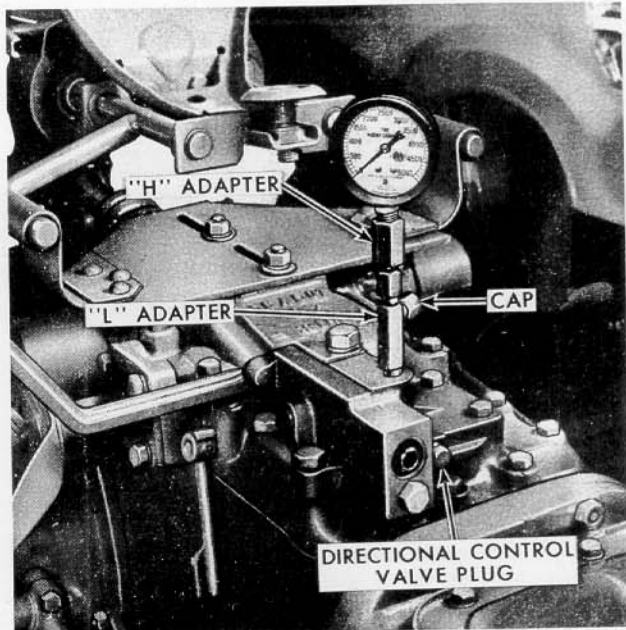

Figure 13
3. Turn the "L" adapter into the "lift" port. Cap the orifice on the "L" adapter and attach the pressure gauge assembly, Figure 13. (The optional "G" fitting can be used in place of the "L" adapter.)